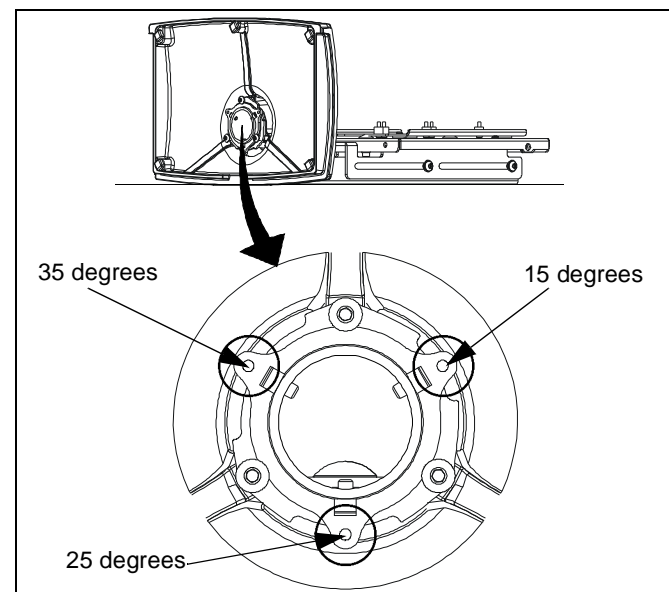

Figure 11
2. Insert one 10-24 X 1/2" Phillips head cap screw in one of the three swivel stop holes (15, 25 or 35 degrees) in the base of the stand. (See Figure 11)